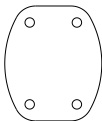

Figure 2-9 Mounting Template
1. Drill the screw holes on the wall according to the drill template. As shown in Figure 2-9.